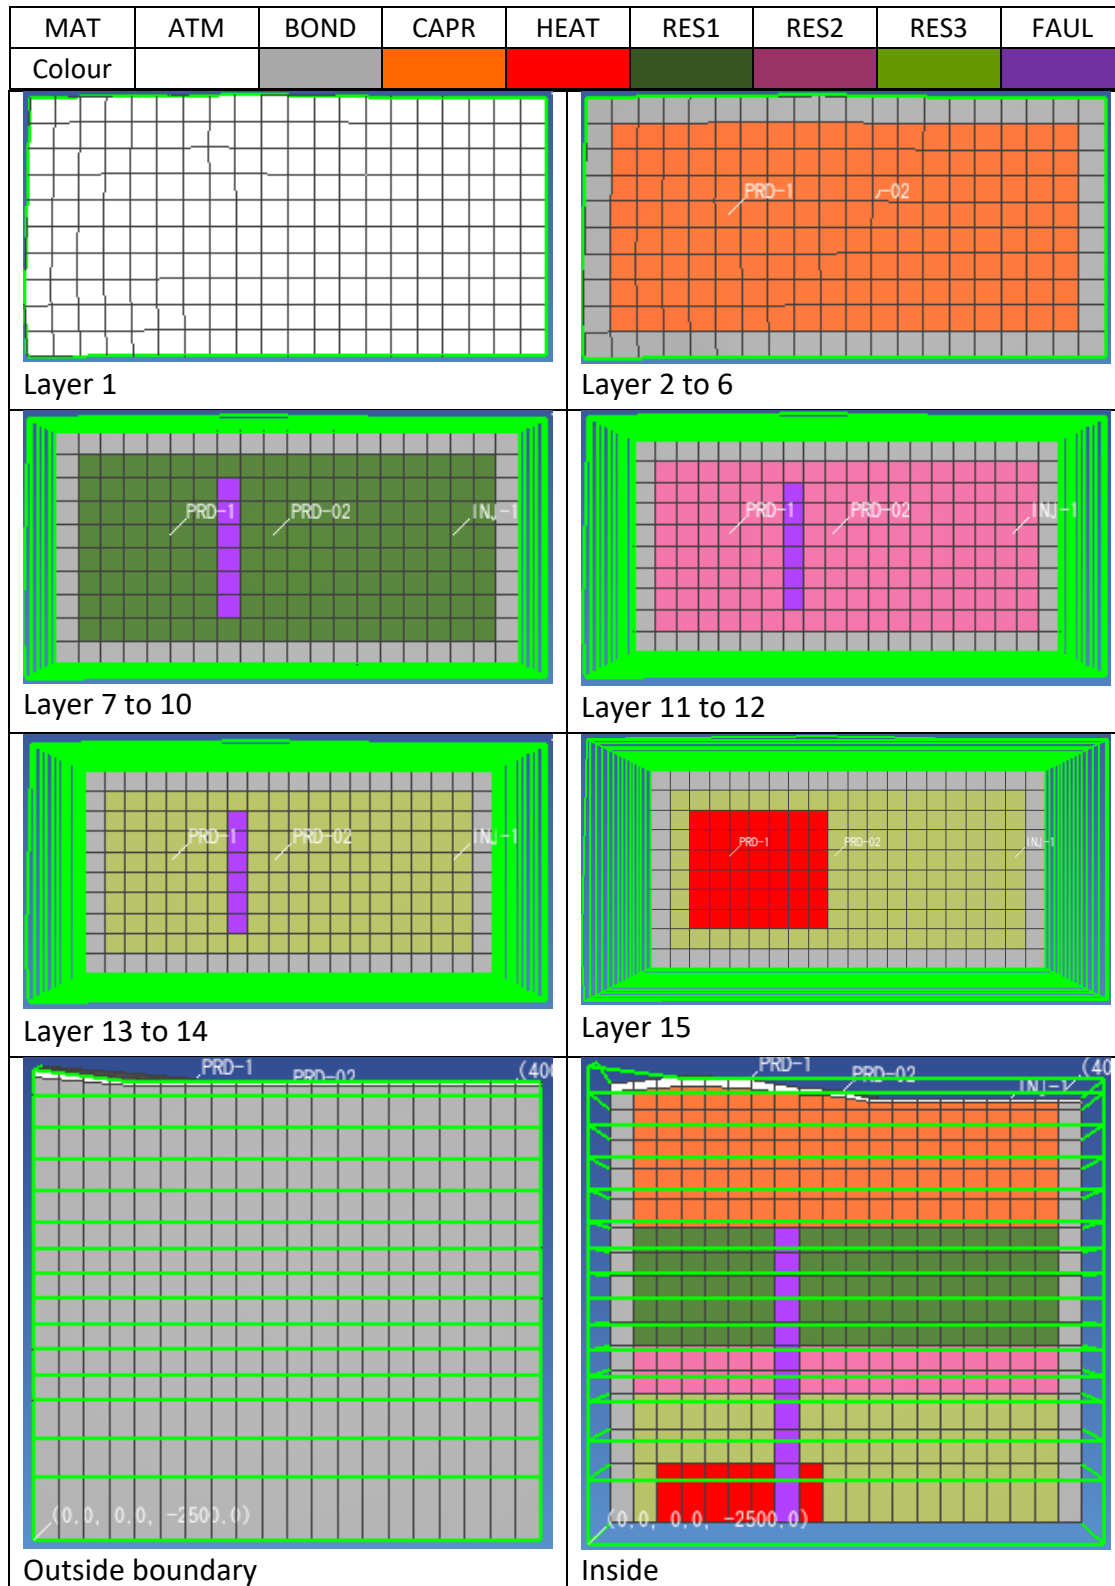

Figure 7. Layers with material data.
- Choose the appropriate material data base on Figure 7.
4. Right-click the selected cells, and click **Edit Cells ...** (Figure 7 – layer 15)